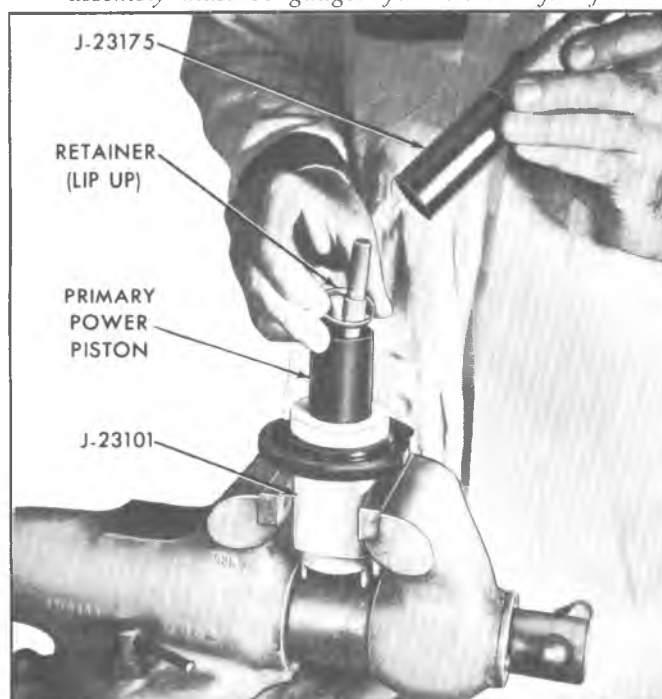
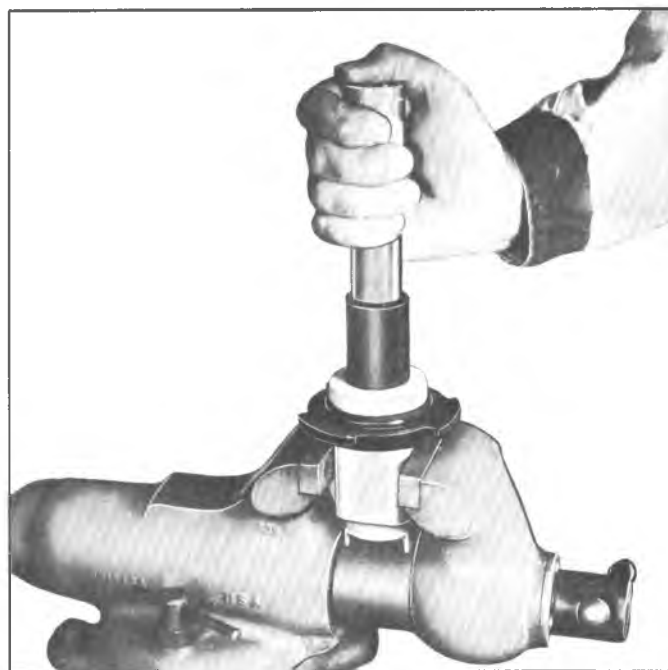

Fig. 11B--Installing Floating Control Valve Retainer with Installer J-23175
Fig. 12B--Seating Floating Control Valve Assembly with Installer J-23175
4. Place the I.D. of the floating control valve retainer on the O.D. of floating control valve Retainer Installer J-23175. Place over the push rod so that the closed side of the retainer seats on the floating control valve (fig. 11B). With Installer J-23175, manually press the retainer and floating control valve assembly to seat in the primary power piston tube (fig. 12B).